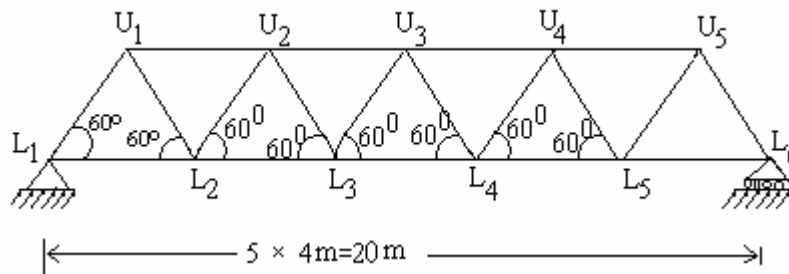

Fig.5
7. Determine the maximum force in the members U_1L_2 , U_2U_3 , U_3L_3 and L_3L_4 of the bridge truss shown in Fig.5, if uniformly distributed load of 80 kN/m, longer than the span, traverses along the bottom chord members. [16]